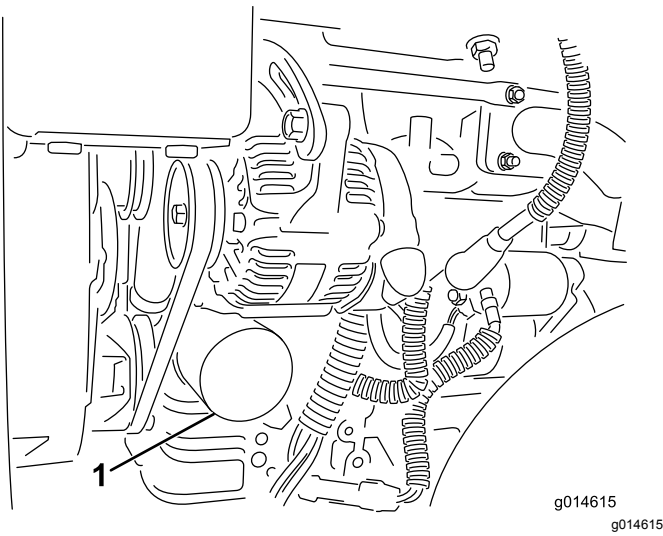

Figure 40
2. Remove the oil filter (Figure 40). Apply a light coat of clean oil to the new filter gasket.